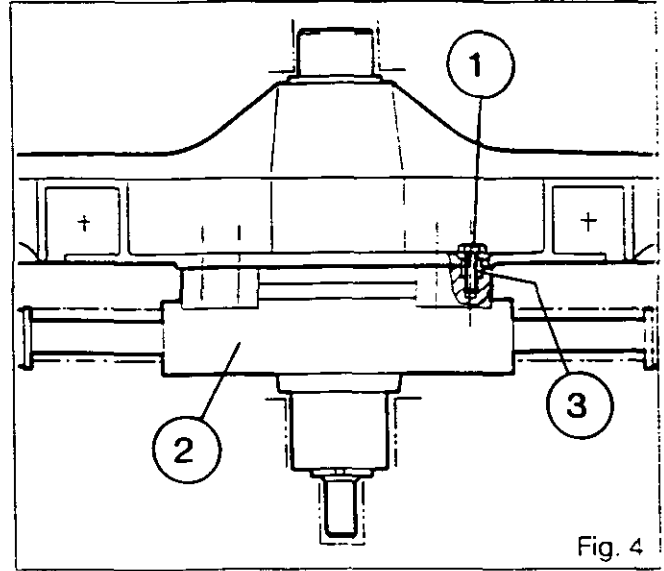

Fig. 4
- 14. Remove the bolts (1) and detach the steering cylinder (2), taking care not to lose the centring bushes or the rings (3) (depending on the category) (Fig. 4).